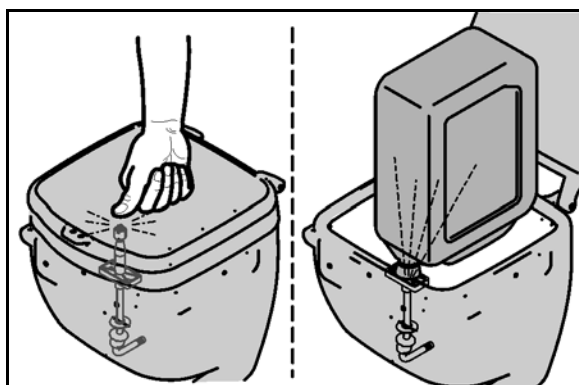

Fig. 66
- the closed hinged lid presses the canister flushing nozzle downwards (Fig. 66).